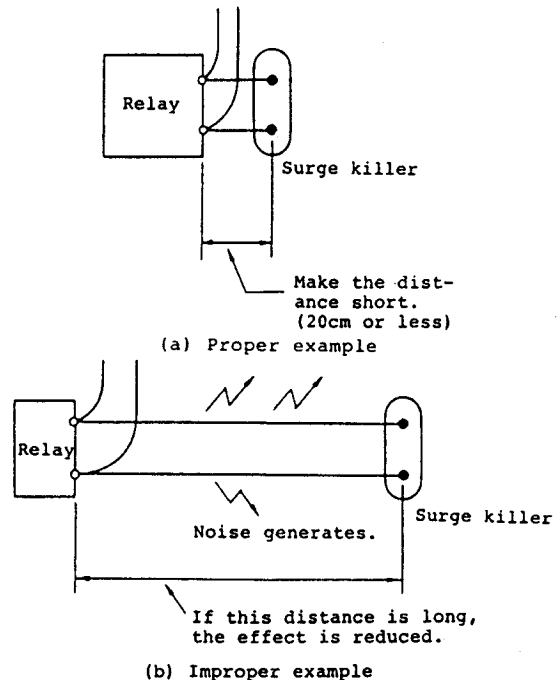

Fig. 4-12 Surge killer layout
- ② Attach the surge killers to be adjacent to the device (relay, etc.) which actually produces noise. As the wiring becomes longer, not only the effect becomes smaller but also the noise absorbed by the surge killer is more liable to be induced in the other signal cable. Keep in mind that the reverse effect will thus result. Refer to Fig. 4-12.
(5) Shield cable processing